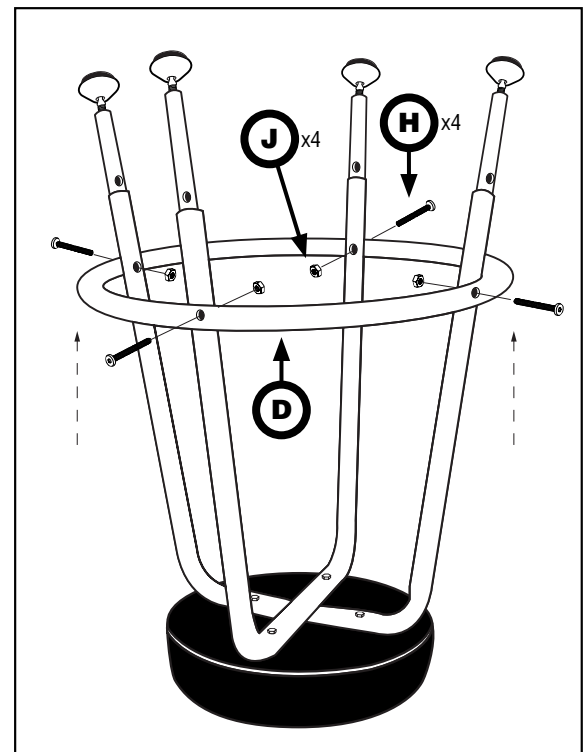

Figure 4
- 5** Slip foot ring (**D**) over leg frame assembly (from cushion end). Align holes in foot ring with holes in U-shaped leg frames and with holes in telescopic leg tubes set at desired height. Secure all four tubes using 2" Allen head leg bolts (**H**) and nuts (**J**). Don't tighten until all four bolts have been inserted. See **Figure 4**.